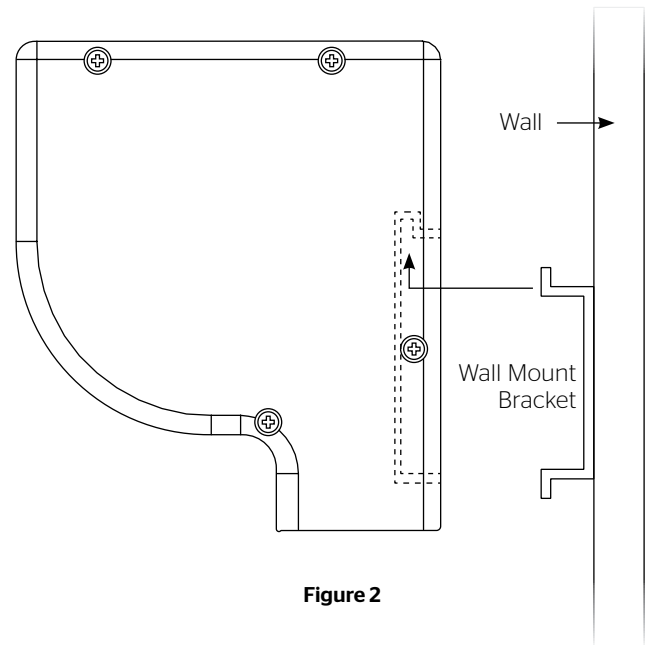

Figure 2
- Secure the wall mount bracket to the wall at the desired height. The wall mount bracket should be fastened to the wall studs or some reinforcement within the wall. Concrete or brick walls require special fasteners and anchors. Allow at least 3" above the wall mount bracket to be able to position the case on the bracket (Figure 2).
- Hang the screen case on the wall mount bracket as shown in Figure 2. Be sure the case is fully seated on the bracket.